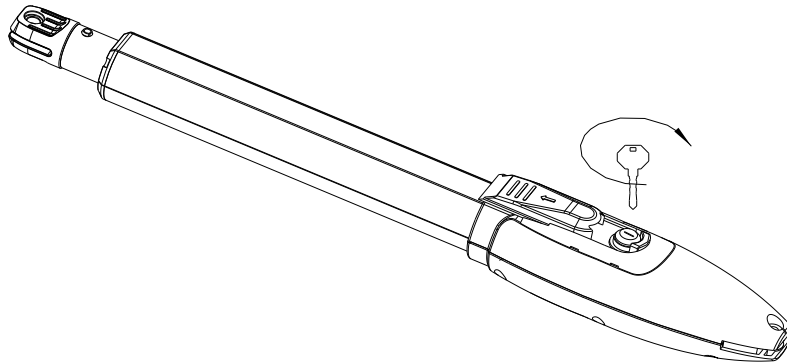

Figure 6
d) Before the installation, please unlock the two main machines. Unlock method: Open the manual release cover, insert the manual release key, rotate the key until it's released, as shown in Figure 6, then turn the telescopic arm, you'll find it is stretched easily.